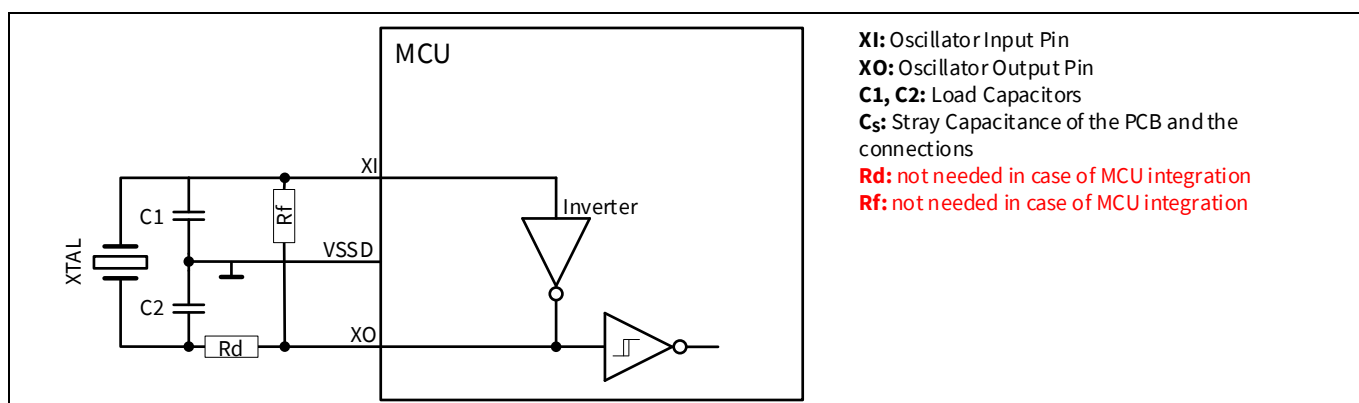

Figure 29 **Standard setup of an external oscillator circuit (different from TRAVEO™ implementation)**
Figure 29 shows the principle of an external oscillator circuit. The feedback resistor (R_f) is required to act is necessary for the inverter to act as an amplifier. Optionally, a damping resistor (R_d) is required for drive-level (DL) reduction. If the DL is too strong, the crystal can be damaged over the life time. The load capacitance C_L is